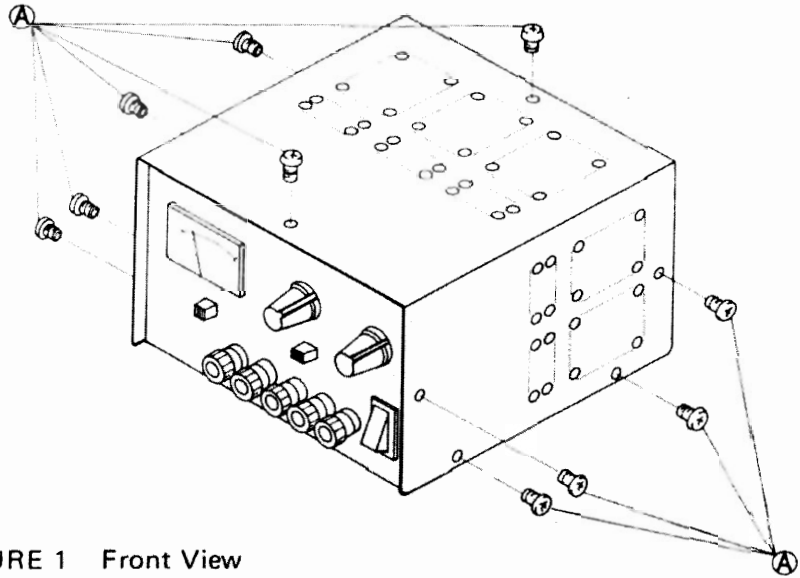

FIGURE 1 Front View
- (1) Turn power switch off and remove line cord from AC outlet.
- (2) Remove the 10 screws (A) shown in Figure 1.
- (3) Separate the top cabinet and bottom cabinet.